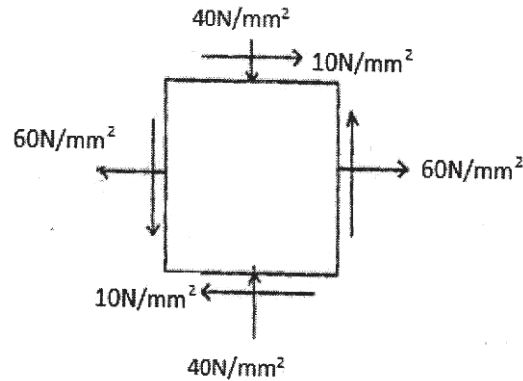

Fig. 8
7. (a) A plane element is subjected to stresses as shown in fig 8. Determine principal stresses, maximum principal stress and position of principal plane. [7]